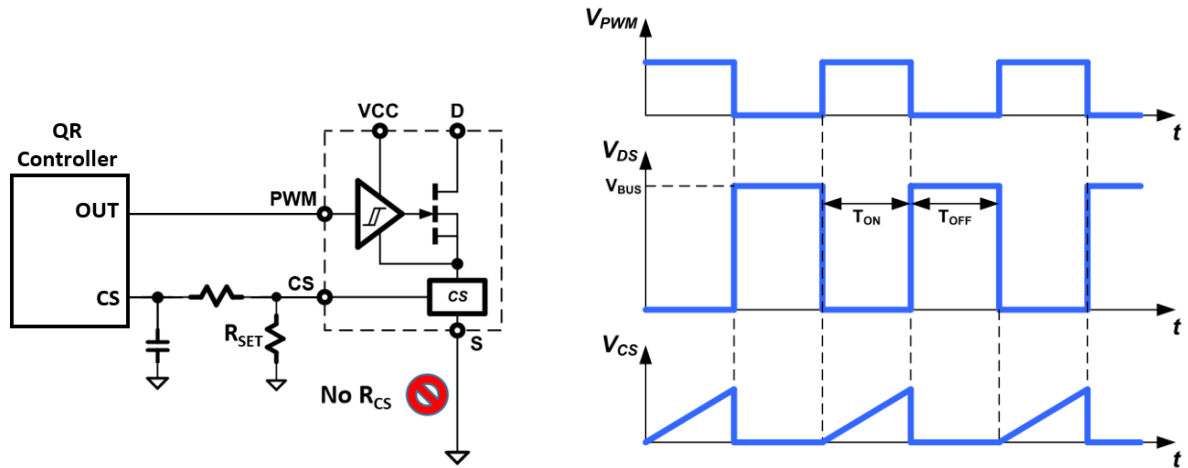

Fig. 26. Current sensing circuit and timing diagram
For many applications it is necessary to sense the cycle-by-cycle current flowing through the power FET. Existing current sensing solutions include placing a current sensing resistor in between the source of the power FET and PGND. This resistor method increases system conduction power losses, creates a hotspot on the PCB, and lowers overall system efficiency. To eliminate this external resistor and hotspot, and increase system efficiency, this IC includes GaNSense™ Technology for integrated and accurate loss-less current sensing. The current flowing through the internal GaN power FET is sensed internally and then converted to a current at the current sensing output pin (CS). An external resistor (RSET) is connected from the CS pin to the SGND pin and is used to set the amplitude of the CS pin voltage signal (Fig. 26). This allows for the CS pin signal to programmed to work with different controllers with different current sensing input thresholds.